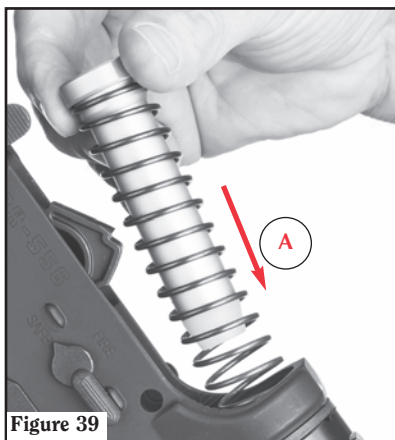

Figure 39
- a. Insert the spring and buffer into the buffer tube (Figure 39).